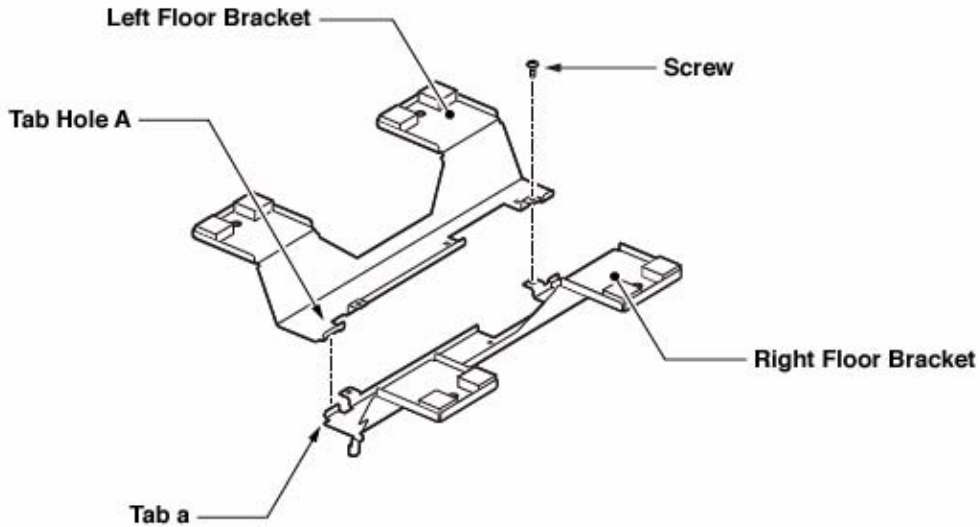
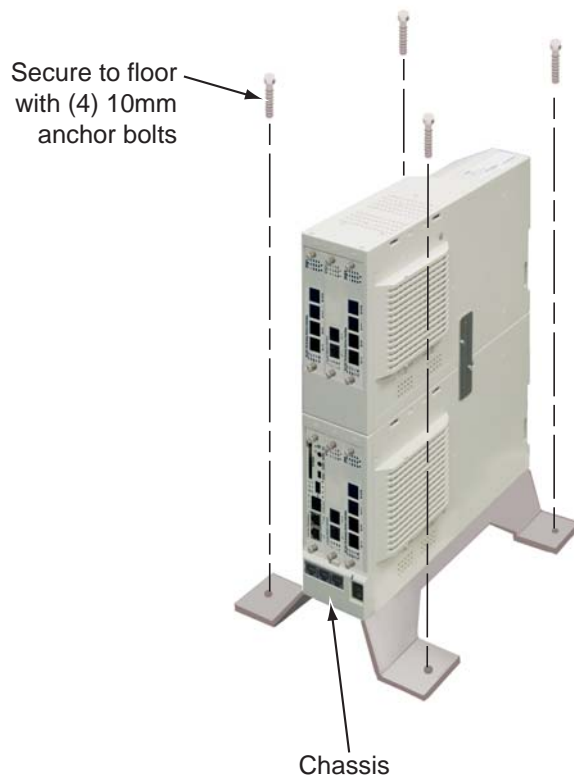

Figure 1-72: CONNECT THE MOUNTING BRACKETS WITH SCREW
Figure 1-74: ATTACH THE CHASSIS TO THE FLOOR
1.7.6 Securing a Single Chassis-B/E to the Floor (Figure 1-72 - Figure 1-74)